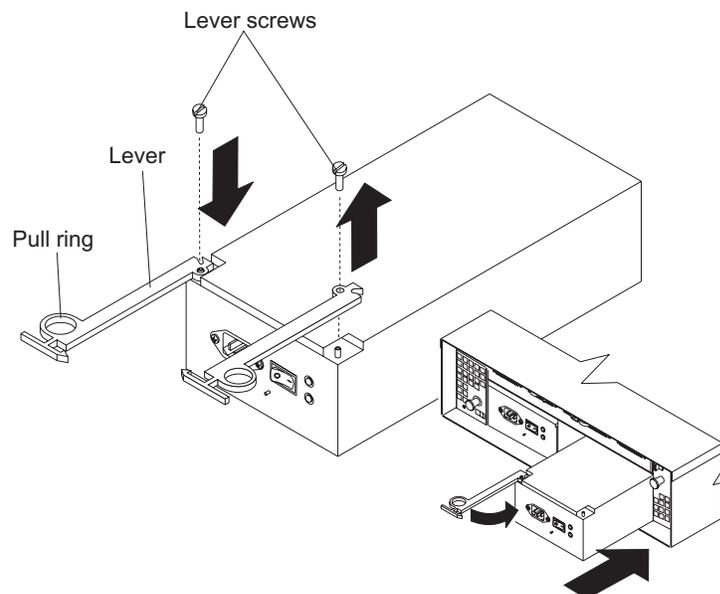

Figure 45. Moving the power supply lever and replacing the failed hot-swap power supply
**Note:** Before you replace the failed power supply, ensure that the new power supply lever is attached to the side of the power supply that faces the middle of the expansion enclosure. If it is not, remove the lever screw, flip the lever over, and tighten the screw on the opposite side as shown in Figure 45.
- a. Slide the power supply into the expansion enclosure. Be sure that the lever is pulled straight out as you slide the power supply into the expansion enclosure (see Figure 45 on page 84).